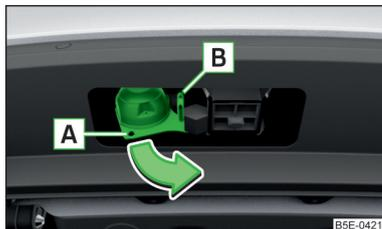

Fig. 299
- › Grip the 13-pin socket at point **A** and swing out in the direction of the arrow » Fig. 299.
- › Open the socket cap and insert the plug of the trailer (accessories) into the 13-pin socket **A** » Fig. 299. (If the trailer / accessories have a 7-pin connector, use a corresponding reduction piece from the ŠKODA Original Accessories).